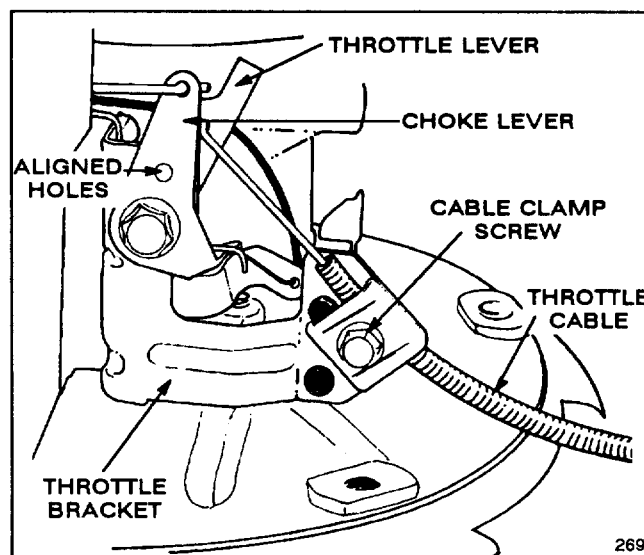

Figure 20
3. Loosen cable clamp screw until throttle cable slides (Fig. 20).
4. Check to see if holes in throttle lever and choke lever are aligned (Fig. 20). If not, follow adjustment procedure in step 5.
5. ADJUSTMENT—A small diameter pin may be inserted into aligned holes to hold adjustment. Push throttle cable until throttle lever contacts choke lever (Fig. 20). Tighten cable clamp screw. Remove pin if used.